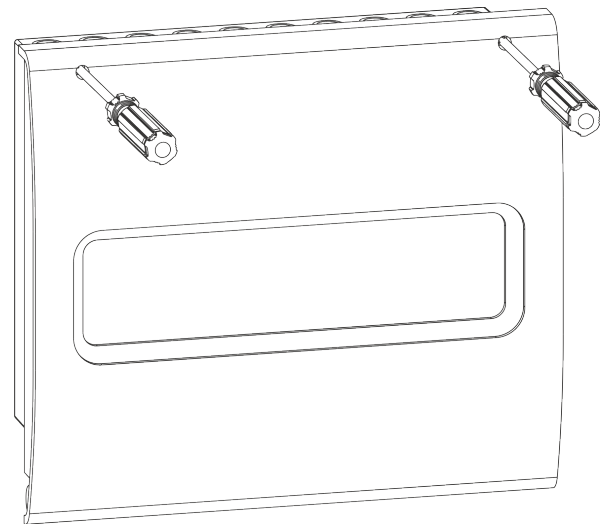

Figure 13: Removing the Front Cover
- To remove the front cover of the panel, unscrew the two retraining screws located at the top corners of the panel, see Figure 13.